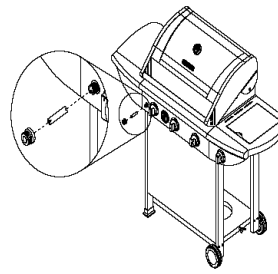

Figure 15
3. Replace the ignition battery cap after the battery has been installed. (Fig.15)